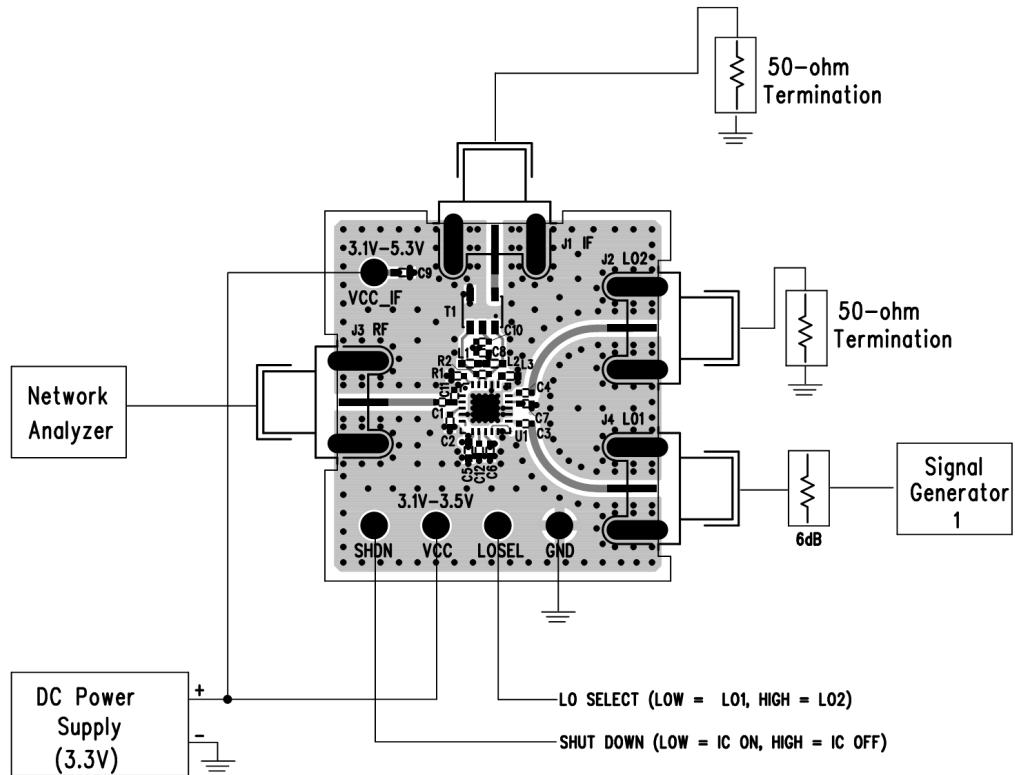
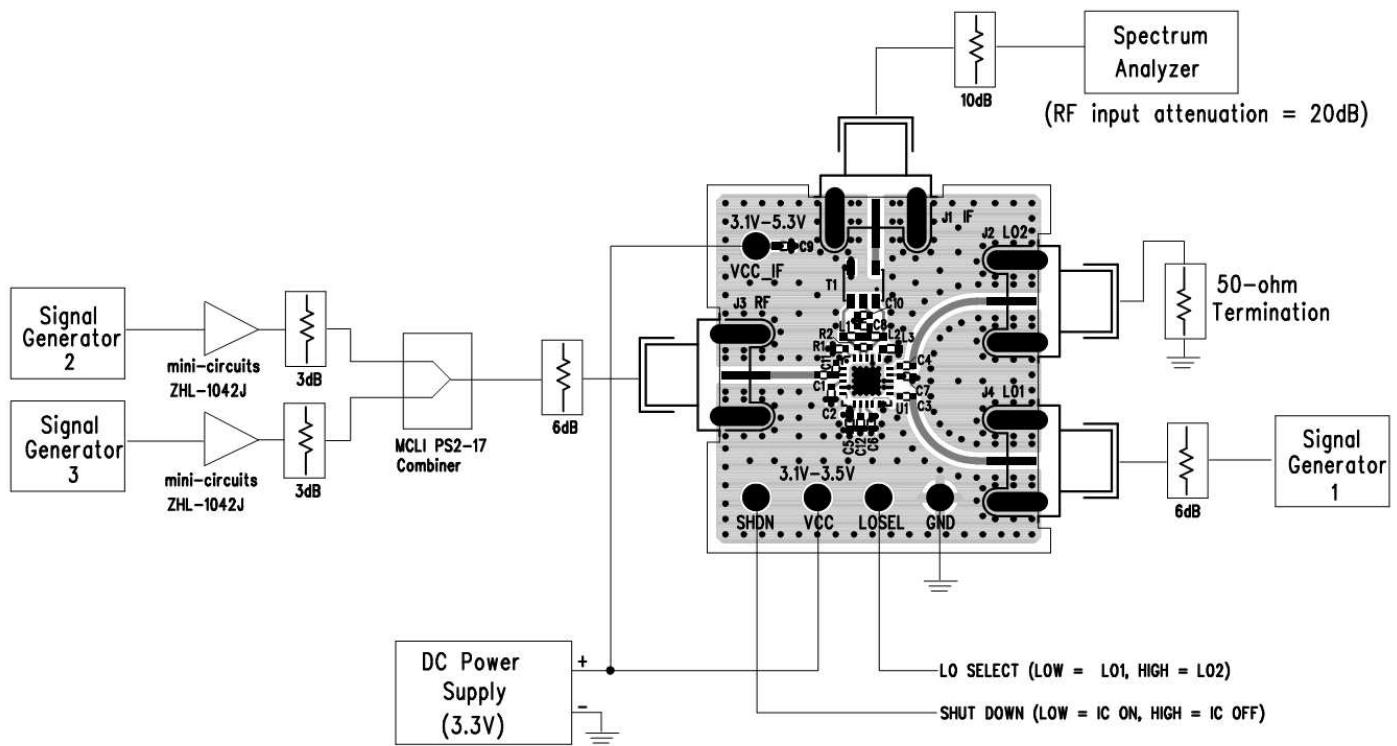
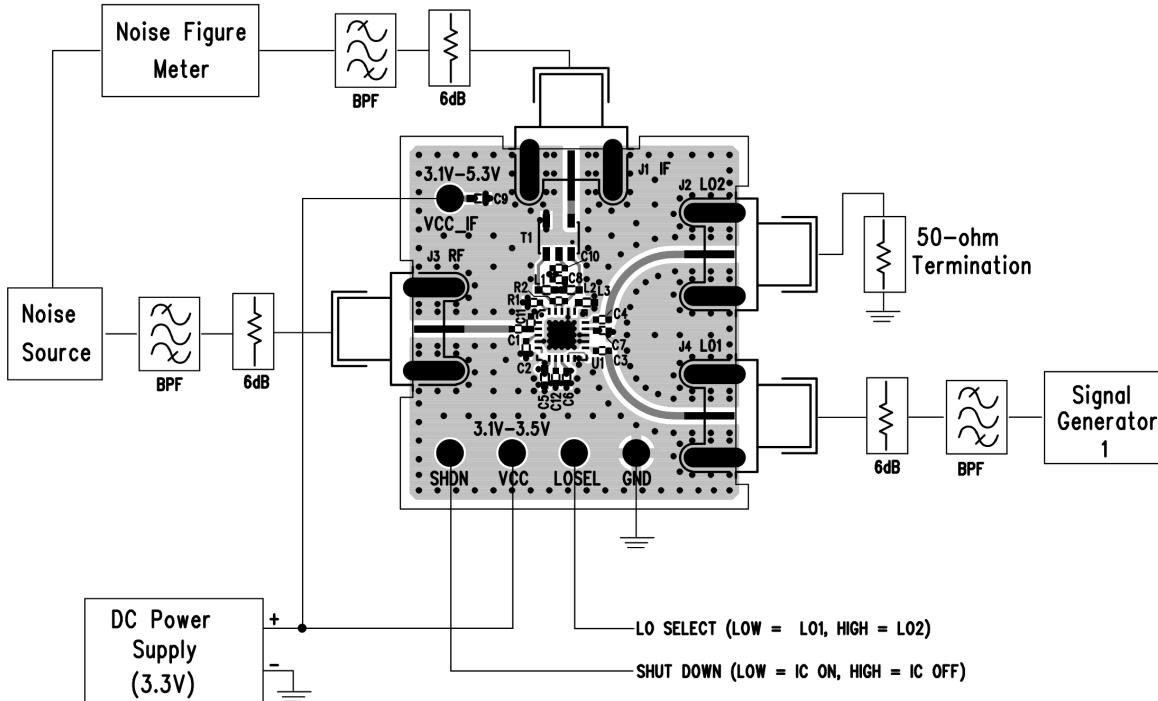

Figure 5. Proper Equipment Setup for Return Loss Measurements
Figure 6. Proper Equipment Setup for RF Performance Measurements
Figure 7. Proper Equipment Setup for Noise Figure Measurement
The LTC5541 is a high dynamic range downconverting mixer IC with very high input 3rd order intercept. Accuracy of its performance measurement is highly dependent on equipment setup and measurement technique. The recommended measurement setups are presented in Figure 5, Figure 6, and Figure 7. The following precautions should be observed:
The LTC5541 consists of a high linearity passive double-balanced mixer core and IF buffer amplifier. Due to the bi-directional nature of all passive mixers, $\text{LO}\pm\text{IF}$ mixing product is always present at the RF input, typically at a level of 12dB below the RF input signal. If the $\text{LO}\pm\text{IF}$ "Pseudo-Image Spur" is not properly terminated, it may interfere with the source signals, and can degrade the measured linearity and noise figure significantly. To avoid interference from the $\text{LO}\pm\text{IF}$ "Pseudo-Image Spur", terminate the RF input port with an isolator, diplexer, or attenuator. In the recommended measurement setups presented in Figure 6 and Figure 7, the 6dB attenuator pad at the demonstration circuit's RF input serves this purpose.
Demonstration circuit 1431A-B is easy to set up to evaluate the performance of the LTC5541. Refer to Figure 5, Figure 6, and Figure 7 for proper equipment connections and follow the procedure below:
3. Connect all test equipment as shown in Figure 5 with the signal generator and the DC power supply turned off.
1. Connect all test equipment as shown in Figure 6 with the signal generators and the DC power supply turned off.
2. Connect all test equipment as shown in Figure 7 with the signal generator and the DC power supply turned off.